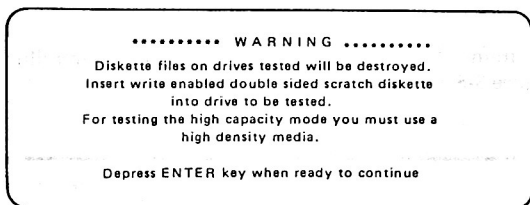

Figure 3-6 High capacity test introduction
3. The power-on diagnostics will complete as normal, but then a special screen message will appear. This screen is shown in Figure 3-6.